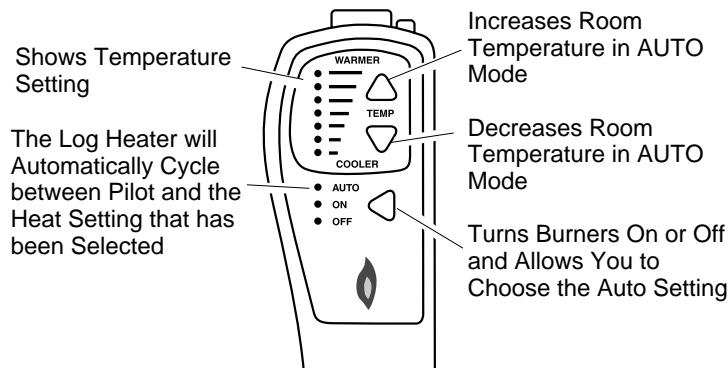

Figure 28 - Thermostat Hand-Held Remote Control Unit Selections (GHRCTA Series Only)
- 2b. Press the AUTO/ON/OFF button on the hand-held remote control (see Figure 28). The lights to the left of the button will show AUTO, ON, or OFF.